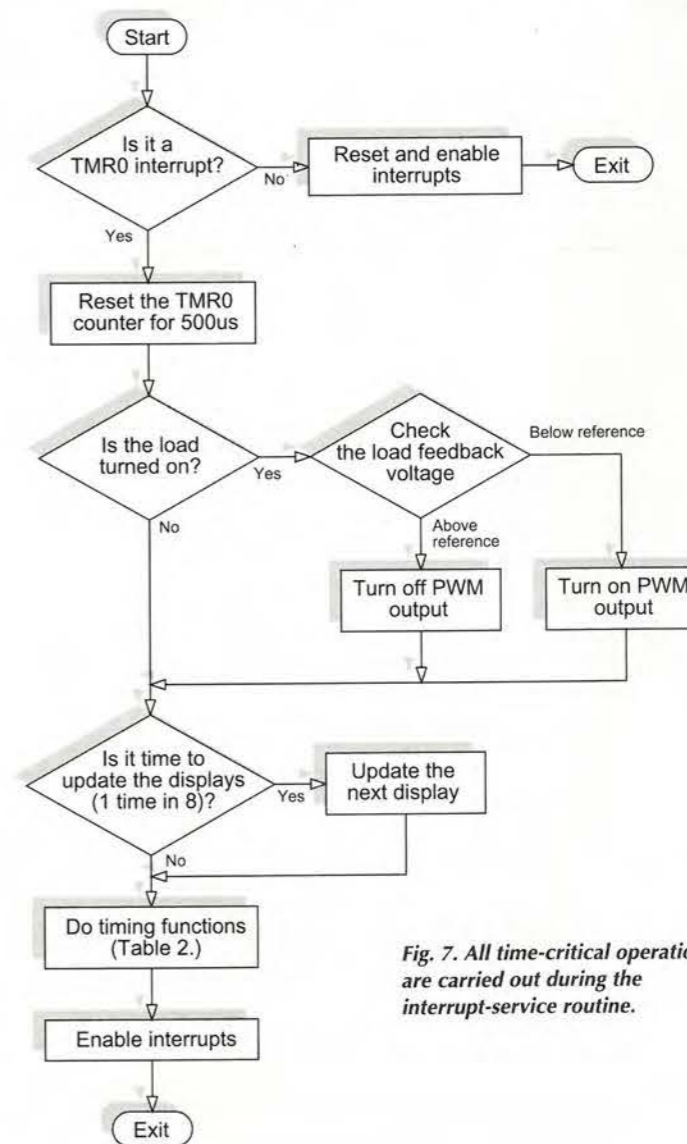

Fig. 7. All time-critical operations are carried out during the interrupt-service routine.
**The interrupt-service routine.** This routine, Fig. 7, provides time-critical routines. These allow other routines to operate without worrying how they will affect factors such as the load PWM signal or the overall timing of the test.